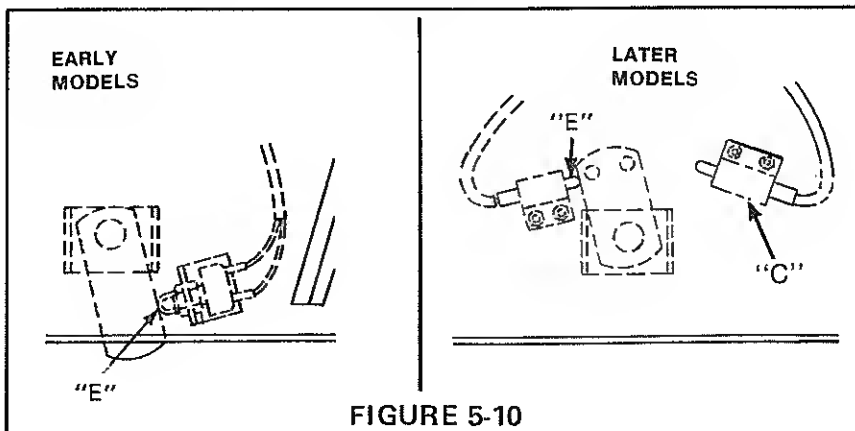

FIGURE 5-10
3. The third switch (E), Figure 5-10, is on the brake linkage. The switch button should depress approximately 3/32" (2 mm) when the brake is applied. If not, adjust by loosening nuts on switch and moving switch forward or back. Retighten nuts.
4. The fourth switch (C) Figure 5-10 is also on the brake linkage. When the pedal is released the button of the switch should be depressed approximately 3/32" (2 mm). When the pedal is depressed, the button of the switch is released and all power to the cruise control is shut off. If not, adjust by loosening nuts on switch and move switch forward or back. Retighten nuts.